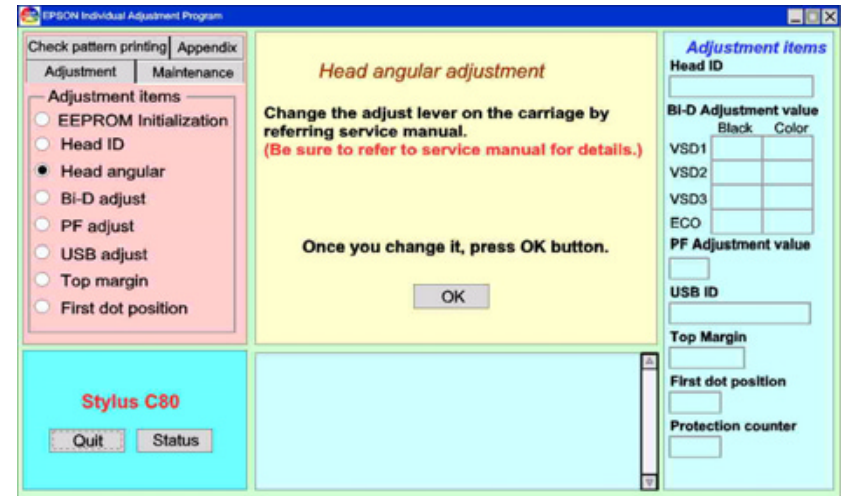

Figure 5-17. Head Angle Adjust Mode 4
- Press "O.K." button on the current program screen. (Figure 5-17) Following screen appears.